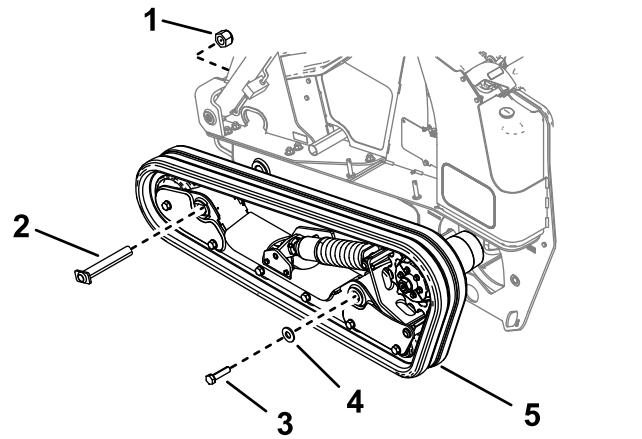

Figure 11
2. Bolt—3/8 x 1-1/4 inches (2)
3. Install the track assembly and secure it to the main frame using the bolt, washer, pin, and nut removed from the track assemblies (Figure 11).